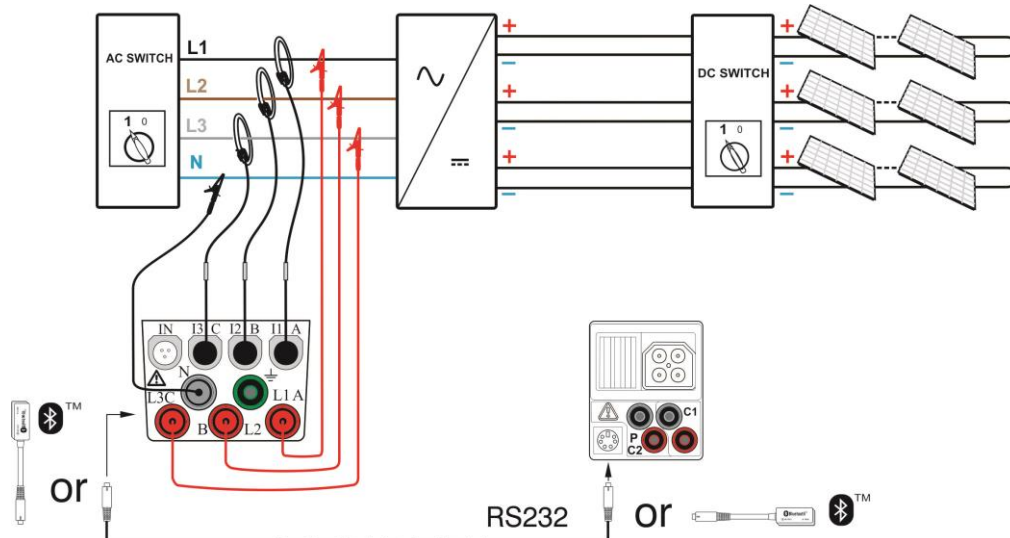

Figure 5.20: Connection to Metrel Powermeter for 3 phase AC measurements
- ❑ **Connect** universal PV test lead or PV safety probe and DC current clamp to the EurotestPV Lite instrument (see figures 5.20 to 5.22).
- ❑ **Connect** voltage test leads to L1, L2, L3 and N at the output side of the inverter (see figures 5.20 to 5.22).
- ❑ **Connect** accessories to the PV system (see figures 5.20 and 5.22).